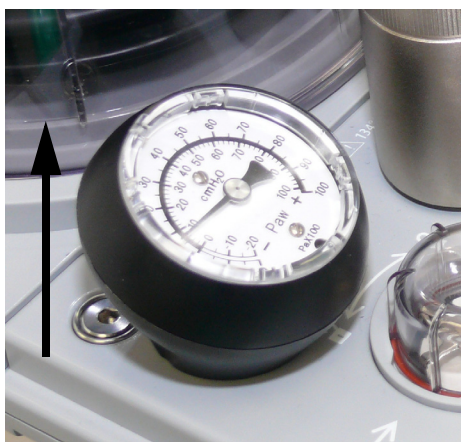

FIGURE 7-15 PAW Gauge Removal
1. The PAW gauge is a component that is pressed into position for use. It is not necessary to remove this component to clean it. However, if removal is desired, simply hold it and lift it straight up from the absorber block as shown in FIGURE 7-15.